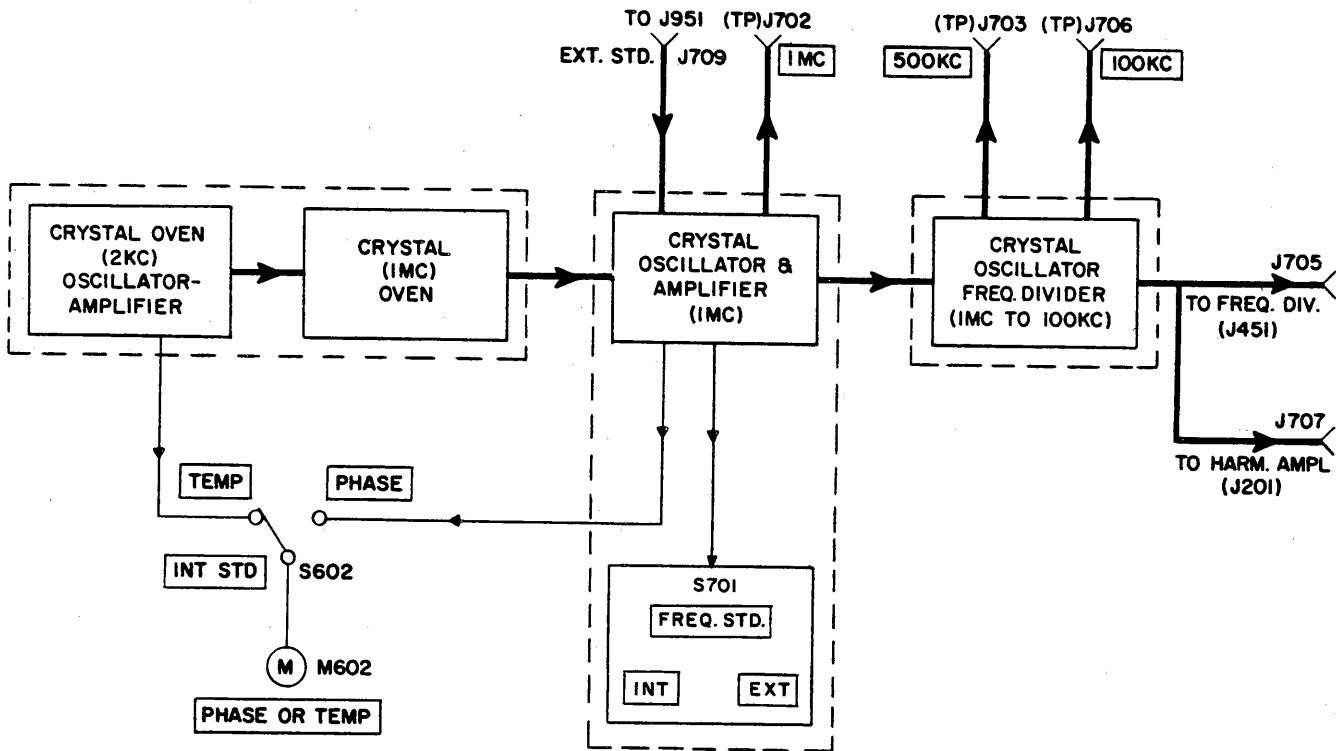

Figure 5-51. Crystal Oscillator, Functional Block Diagram
a. GENERAL.—The crystal oscillator subassembly (figure 5-51) contains three circuit sections—the crystal oscillator and amplifier (figure 5-52), the crystal oscillator and amplifier (figure 5-53), and the crystal oscillator frequency divider (figure 5-54). For a complete schematic diagram of the crystal oscillator subassembly, refer to figure 6-17.
Figs. 5-51 to 5-56